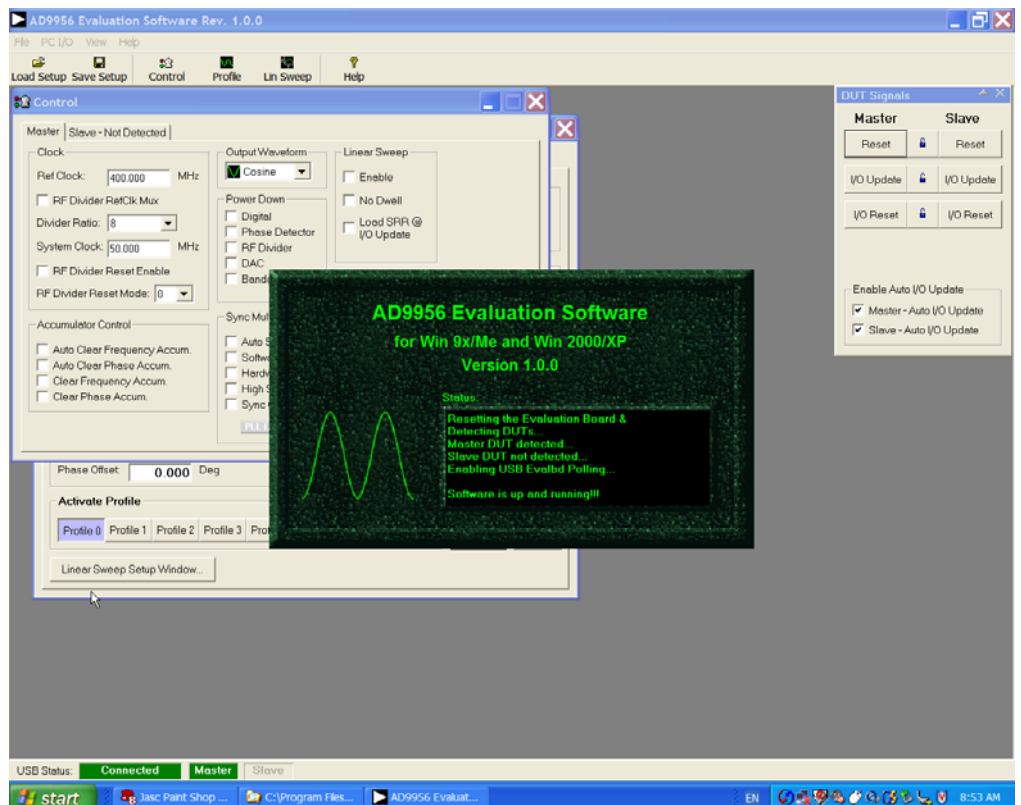

Figure 2. AD9956/PCB Evaluation Board Software Status Message upon Successful Load
2. Double-click the icon to launch the evaluation software. A status window similar to Figure 2 appears in the center of the **AD9956 Evaluation Software** dialog box as progress is made in loading the evaluation software (a black window with green text). If the software loads successfully, the text remains green and the “software up and running” message is displayed. If the loading fails, the text turns red, and a message describing the failure is displayed.
At startup, the software searches for the presence of a functioning AD9956 evaluation board. If it detects the evaluation board, a green splash screen appears, as shown in Figure 2. If it fails to detect a working part, a red error message is displayed.